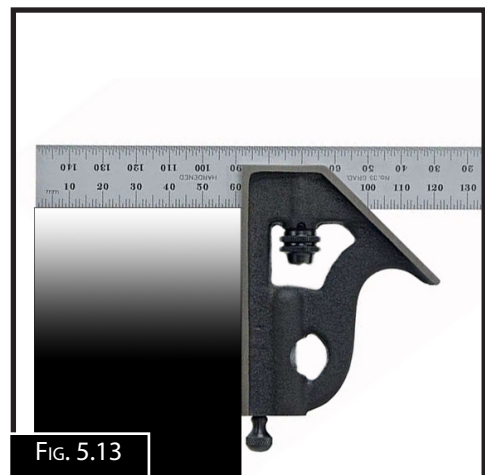

FIG. 5.13
7. Take a cut and check the angle with a square. If the finished cut is not correct then loosen the lock nut and adjust the stop accordingly. (Fig. 5.13)